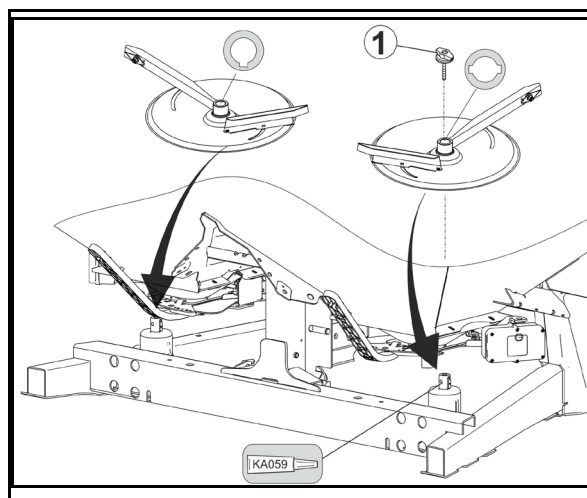

Fig. 72
1. Remove the wing nut (Fig. 72/1).